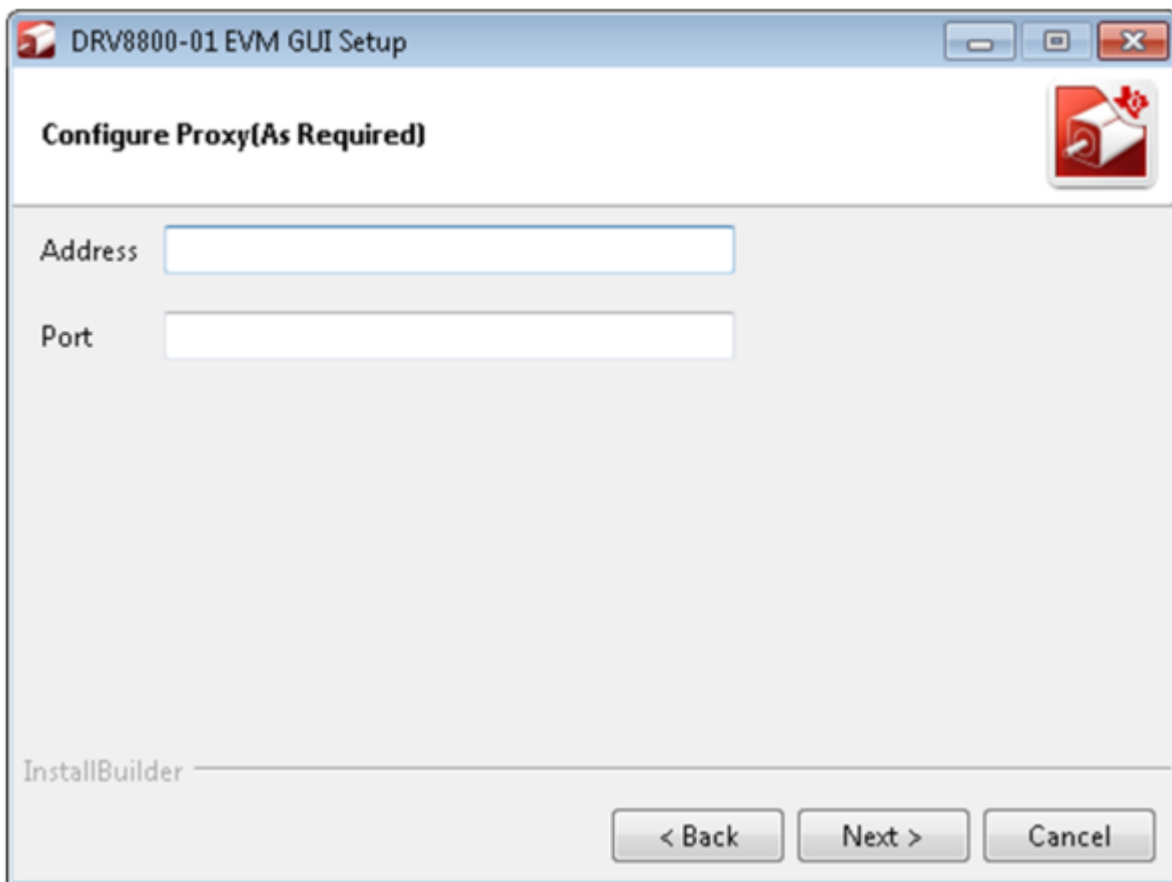

Figure 8. Configure Proxy
7. If LabVIEW RTE is selected as a component to install, a screen appears as shown in Figure 8. Configure the proxy settings as required. This screen is to download the LabVIEW RTE 2014 from ni.com, Click **Next** to continue the installation.